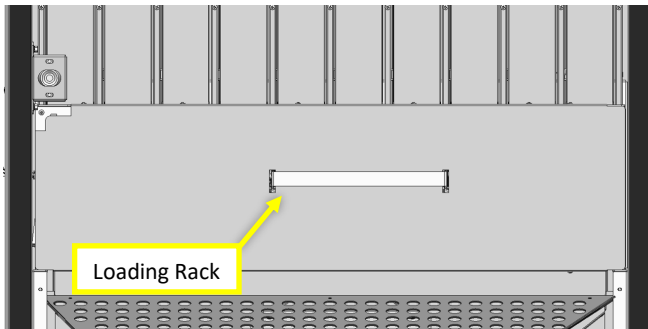

Figure 5.1 Motor Cover Screws and Loading Rack
1. Remove the motor cover by loosening the mounting screws (two at the top and two at the bottom) See Figure 5.1 below.
2. Once the screws are loose, pull the loading rack and the cover out, see Figure 5.1, until the loading rack hits its stops. Now tilt both pieces upwards and keep pulling to fully release the assembly.
2. Once the screws are loose, pull the loading rack and the cover out, see Figure 5.1, until the loading rack hits its stops. Now tilt both pieces up-